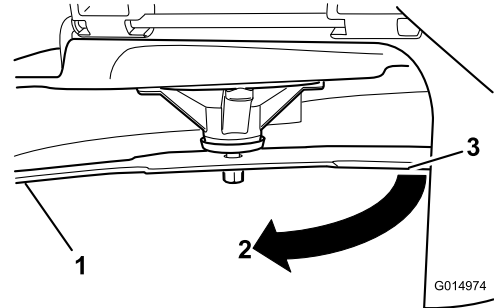

**Figure 45**
2. While wearing thickly padded gloves, or other adequate hand protection, slowly rotate the blade to be measure into a position that allows effective measurement of the distance between the cutting edge and the level surface the machine is on (Figure 45).